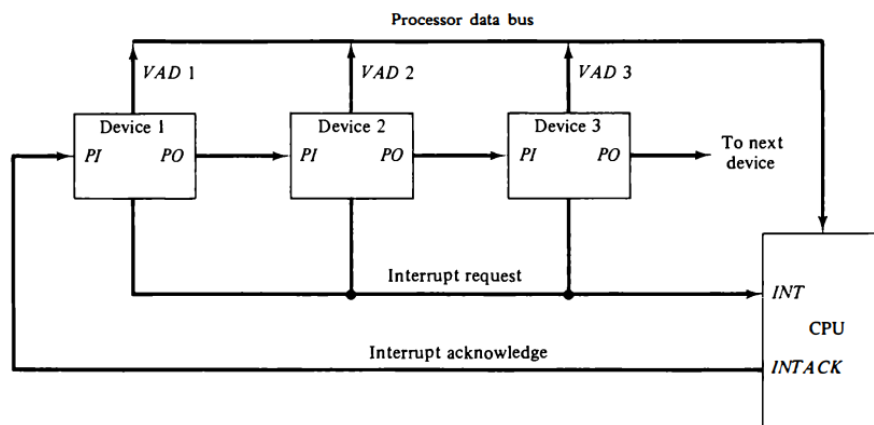

Figure 12 Daisy-chain priority interrupt.
- **This method** of connection between three devices and the CPU is shown in Fig. 12. The interrupt request line is common to all devices and forms a wired logic connection.